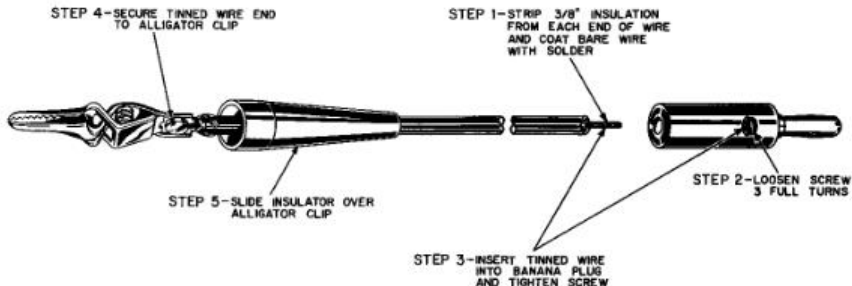

FIGURE 15. HOW TO ASSEMBLE THE TEST LEADS
- ( ) Assemble one red and one black test lead as shown in Figure 15.